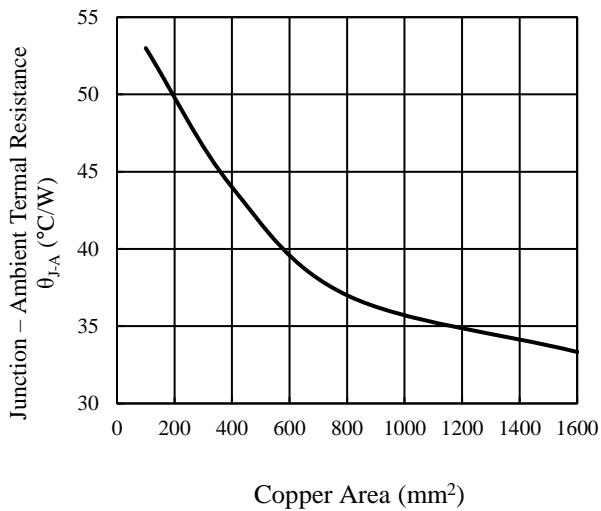

Figure13-3 Thermal Resistance – Copper Area
Figure 13-3 shows the derating of the IC. When using the IC, ensure a sufficient margin.
- (3) Determine the copper area by confirming the intersection of ambient temperature and power dissipation by the thermal derating characteristics shown in Figure13-3.
For reference, Figure13-3 shows the relationship between the copper area and thermal resistance of a single-sided copper foil board, FR-4.